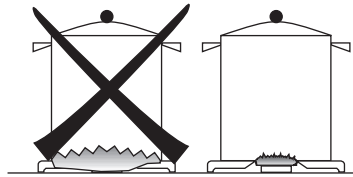

Fig.2
- Do not use large burners with pans of small diameter in order to avoid flames spreading wider than pans (consult the following table and see fig. 2).